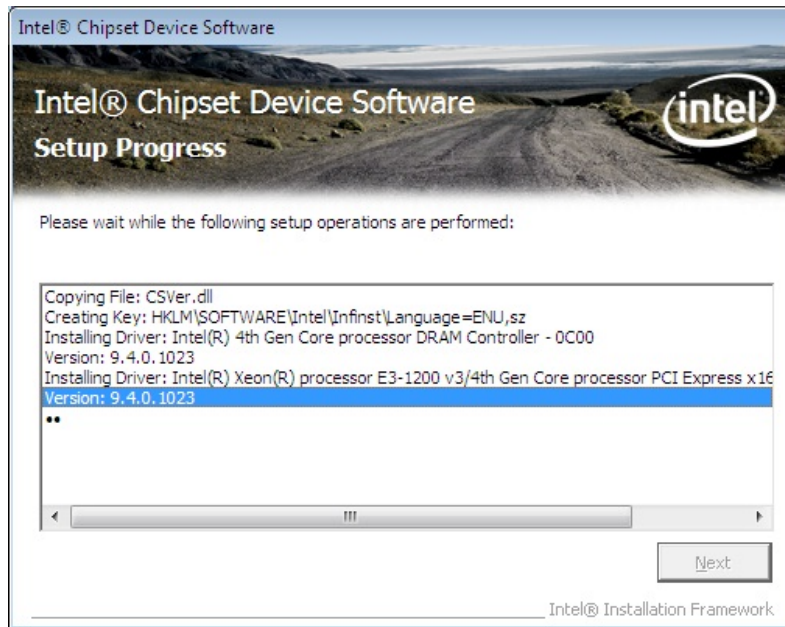

Figure 6-5: Chipset Driver Setup Operations
Step 11: Setup Operations are performed as shown in Figure 6-5.